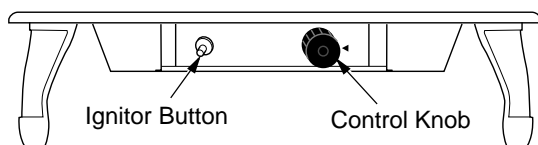

Figure 16 - Control Knob and Ignitor Button Location
4. Wait five (5) minutes to clear out any gas. Then smell for gas, including near the floor. If you smell gas, **STOP!** Follow "B" in the safety information, above. If you don't smell gas, go to the next step.
5. Turn control knob counterclockwise  to the PILOT position. Press in control knob for five (5) seconds (see Figure 16, page 12).